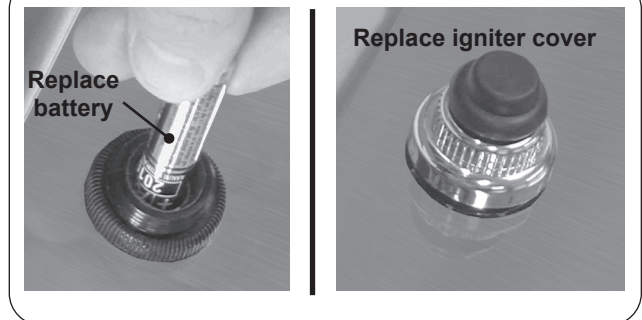

Fig. 36-2 Replace battery
2. Remove battery for replacement. Install the new AAA battery with the negative (-) end out (see Fig. 36-2).
3. After properly inserting the battery, replace the igniter cover by turning the cap clockwise (see Fig. 36-2).